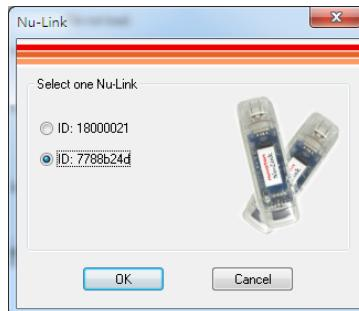

Figure 4-6 Select One Nu-Link Adapter
Step 5: If two Nu-Link Adapters have been connected with the computer, a message appears and asks to select one from the two adapters. Clicking **OK** will connect the selected adapter with the host, as shown in Figure 4-6. When a Nu-Link Adapter is selected for connection, the Status LED starts blinking. For the blinking details, refer to the Status LED description of the "Select a Nu-Link Adapter to connect with the host" in Table 2-4.